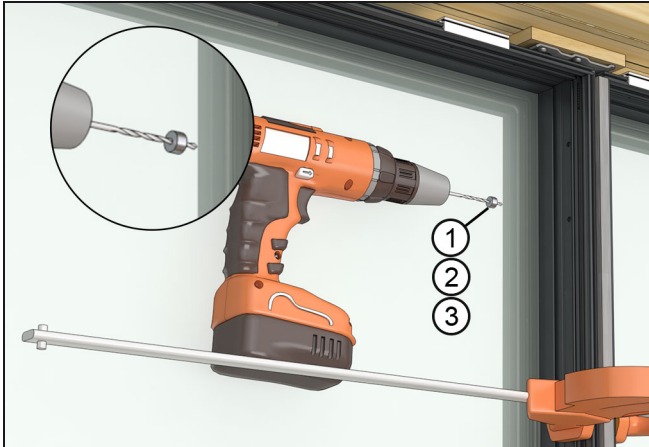

Figure 198 Use stop collar to determine depth. See table below
18. Using a drill with a stop collar use the installation holes as a guide and bore into the steel with a #23 drill bit. Note the depth of the stop collar for different products. See Figure 198.